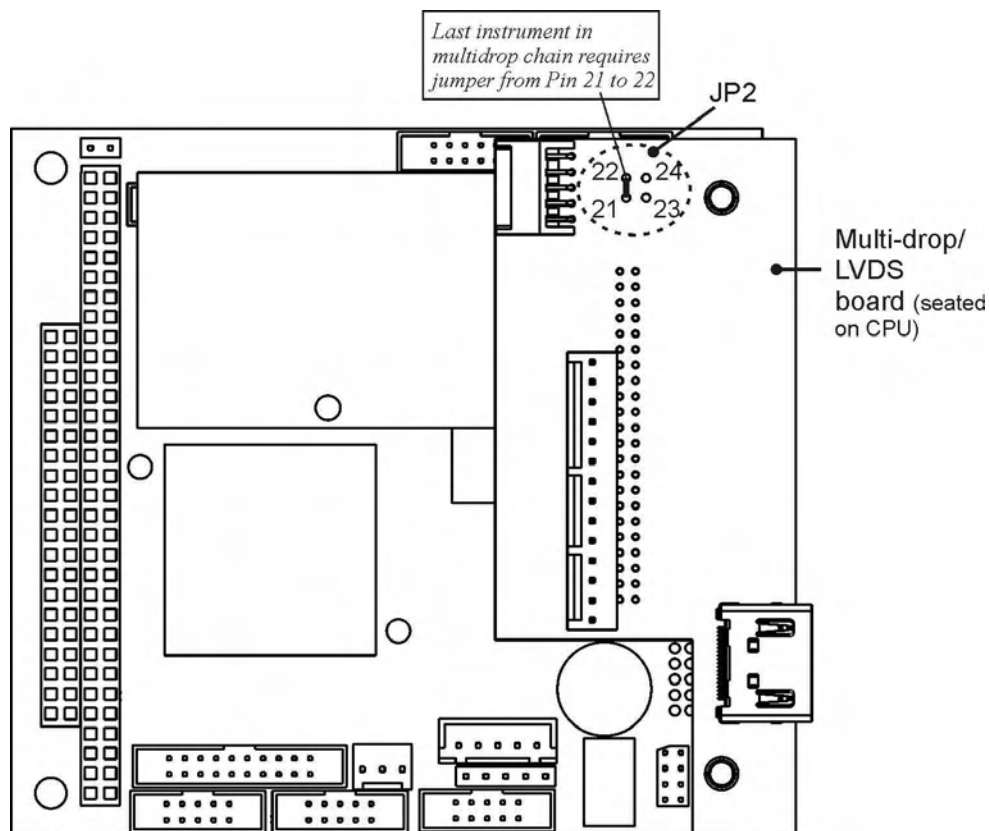

Figure 8-1: JP2 Pins on RS-232-Multidrop PCA
2. On the multidrop PCA's JP2 connector, use the shunt provided to jumper Pins 21 ↔ 22 as indicated in (Figure 8-1).